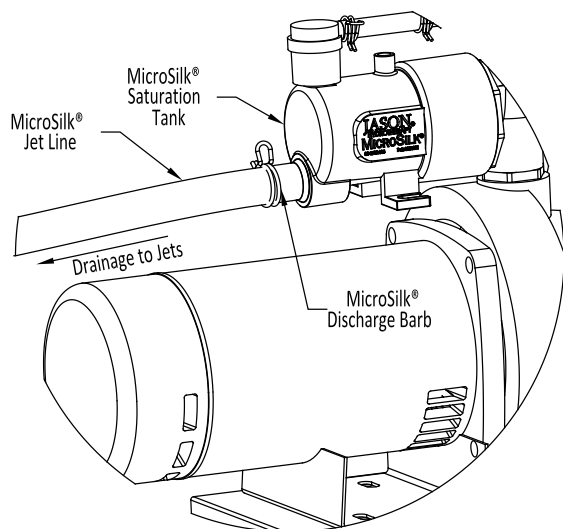

Figure 3
4. Clamp the MicroSilk® Jet Line to the MicroSilk® Discharge Barb using the clamp provided on the tubing. Assure the MicroSilk® Jet Line will allow proper drainage to the Jets (**Figure 3**). The discharge hose must have a continuous drop from the discharge barb to the jet fitting.